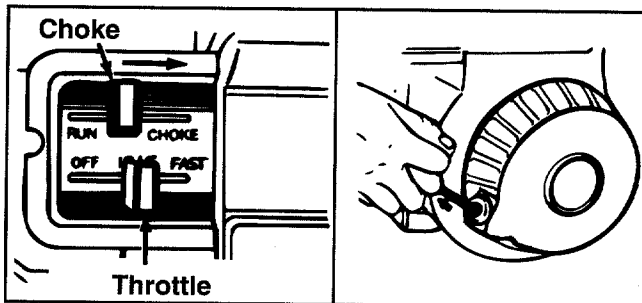

FIGURE 17.
The throttle control lever is located on the engine. It controls the engine speed and stops the engine. See figure 17.
2. Place the throttle control lever in START position. See figure 17.